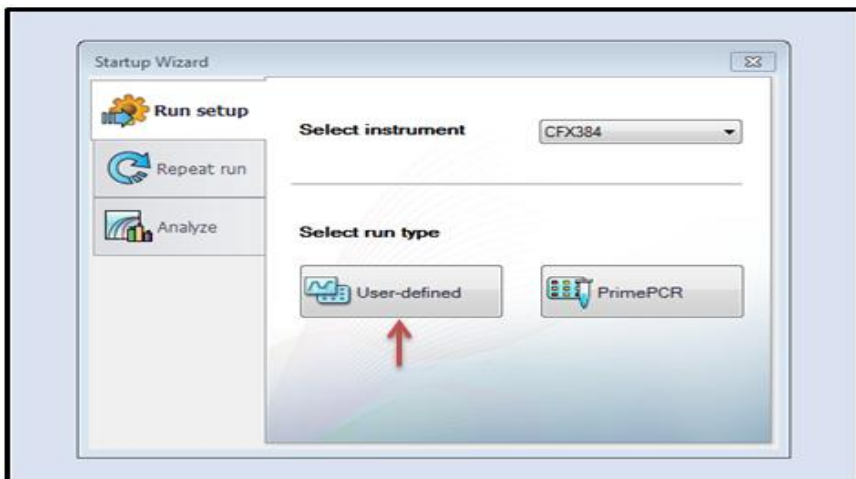

Figure 23: Selecting run type
5.2. Select the correct instrument type (CFX 384) and the run type as 'User-defined as shown in the Figure 23 below.